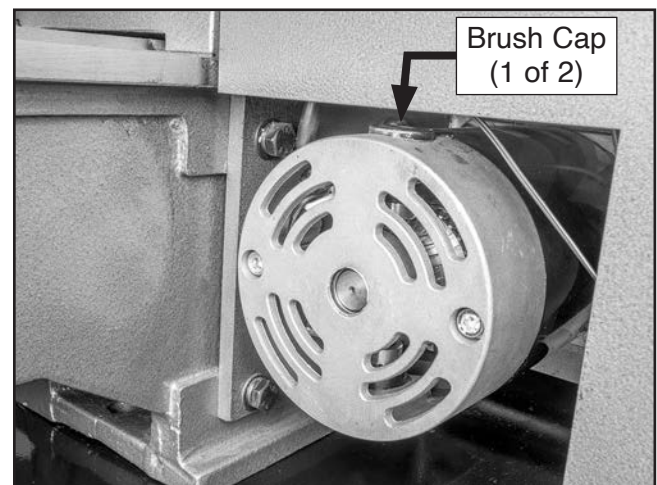

Figure 132. Location of brush caps.
3. Remove (2) brush caps and worn brushes (see **Figures 132–133**) from motor.